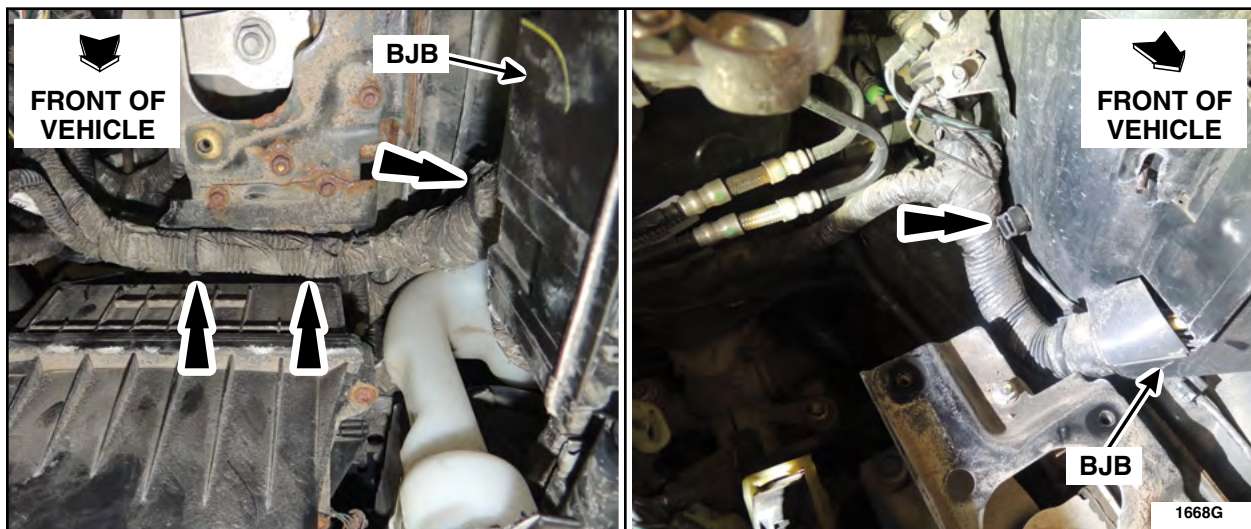

FIGURE 3
5. Disconnect the BJB harness retainers and position the BJB towards the engine to allow access to the bottom portion of the BJB for terminal replacement. See Figure 3.
7. Reposition the BJB and connect the harness retainers. See Figure 3.